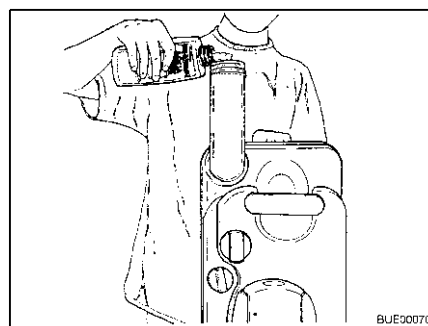

Fig. 198 Filling with sanitary liquid
- Fill the stated amount of sanitary liquid into the sewage tank (Fig. 198).